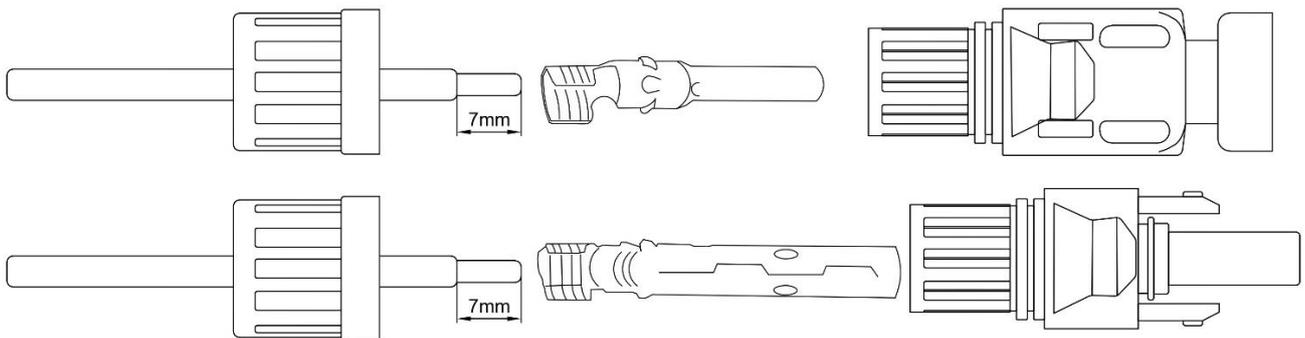

Figure 2.12 Connector cover nut
1. Peel off the DC line about 7mm and remove the connector cover nut see figure 2.12 .